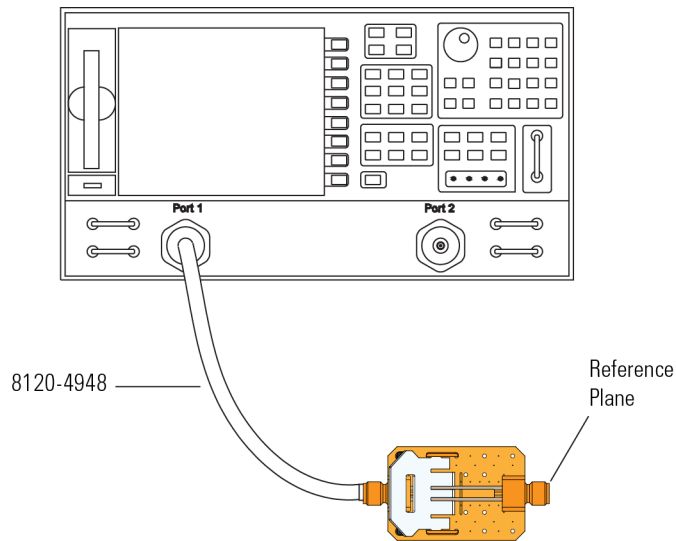

Figure 213 PV/DS Test Board Connected to VNA
- 10 Connect one of the high quality SMA cables to port one and to the pincher side of PV/DS test board as shown in **Figure 213** on page 222.